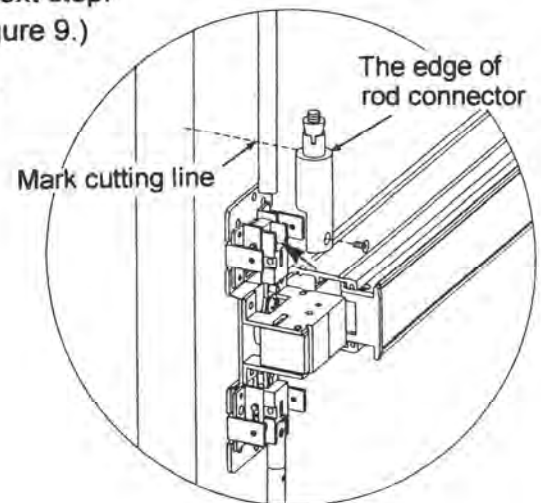

Figure 9
3. Measure and cut the length of top rod. The length of top rod is measured to the edge of rod connector which is going to be fastened on arrow mark position of chassis assembly in next step. Mark the cutting line then cut the excess portion. (See Figure 9.)